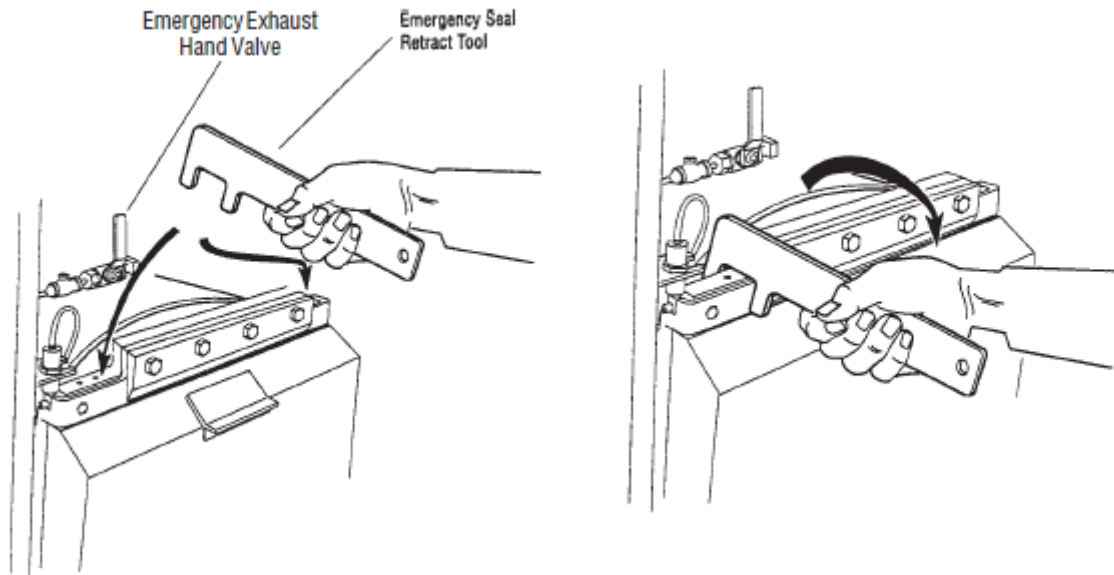

Figure 3-13. Emergency Door Opening Procedure
1. Swing open sterilizer access panel. Open emergency exhaust hand valve until chamber exhausts to 0.0 psig. See Figure 3-13.
2. Using door release tool provided, press on the upper left hand and right hand corners of chamber door (see Figure 3-13). The door should give inward slightly, indicating the seal has been pushed into the groove. The door must bottom out against the metal end-frame of the sterilizer chamber.